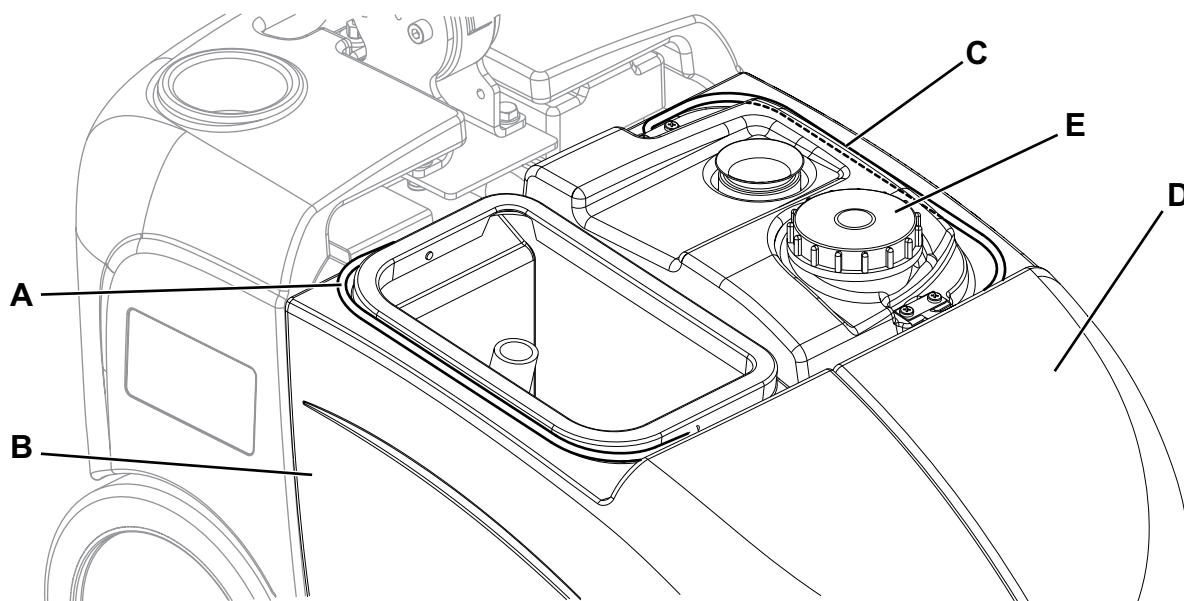

Figure 3
1. Check that the function selection knob (31) is turned to "0".
3. Remove the transparent cover (24).
4. Grab the handle (A, Fig. 3) and lift the recovery tank (B).
8. Grab the handle (C, Fig. 3) and lift the solution tank (D).
9. Open the plug (E) and drain the solution tank. Then, rinse the tank with clean water.